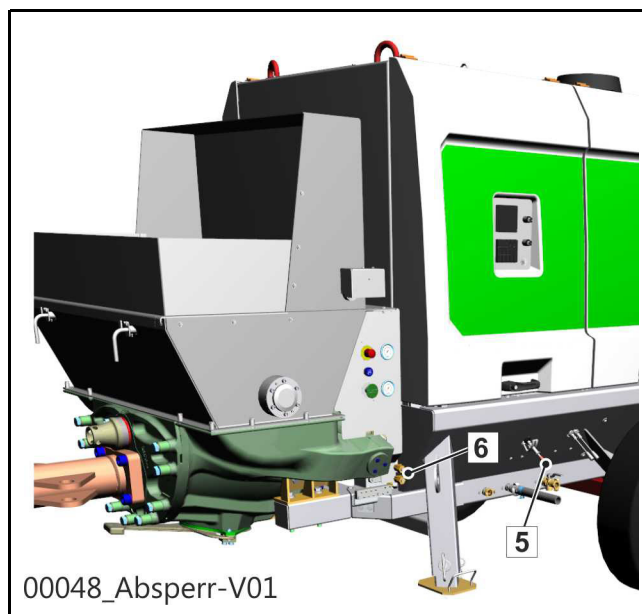

Fig. 96
- Have a hydraulics technician connect the hydraulic junctions of the shut-off assembly to junctions A1 and B1 at machine position (6) (**Fig. 96**).
- Release the safety for the control lever and open or close the shut-off assembly using the control lever (5) (**Fig. 96**).